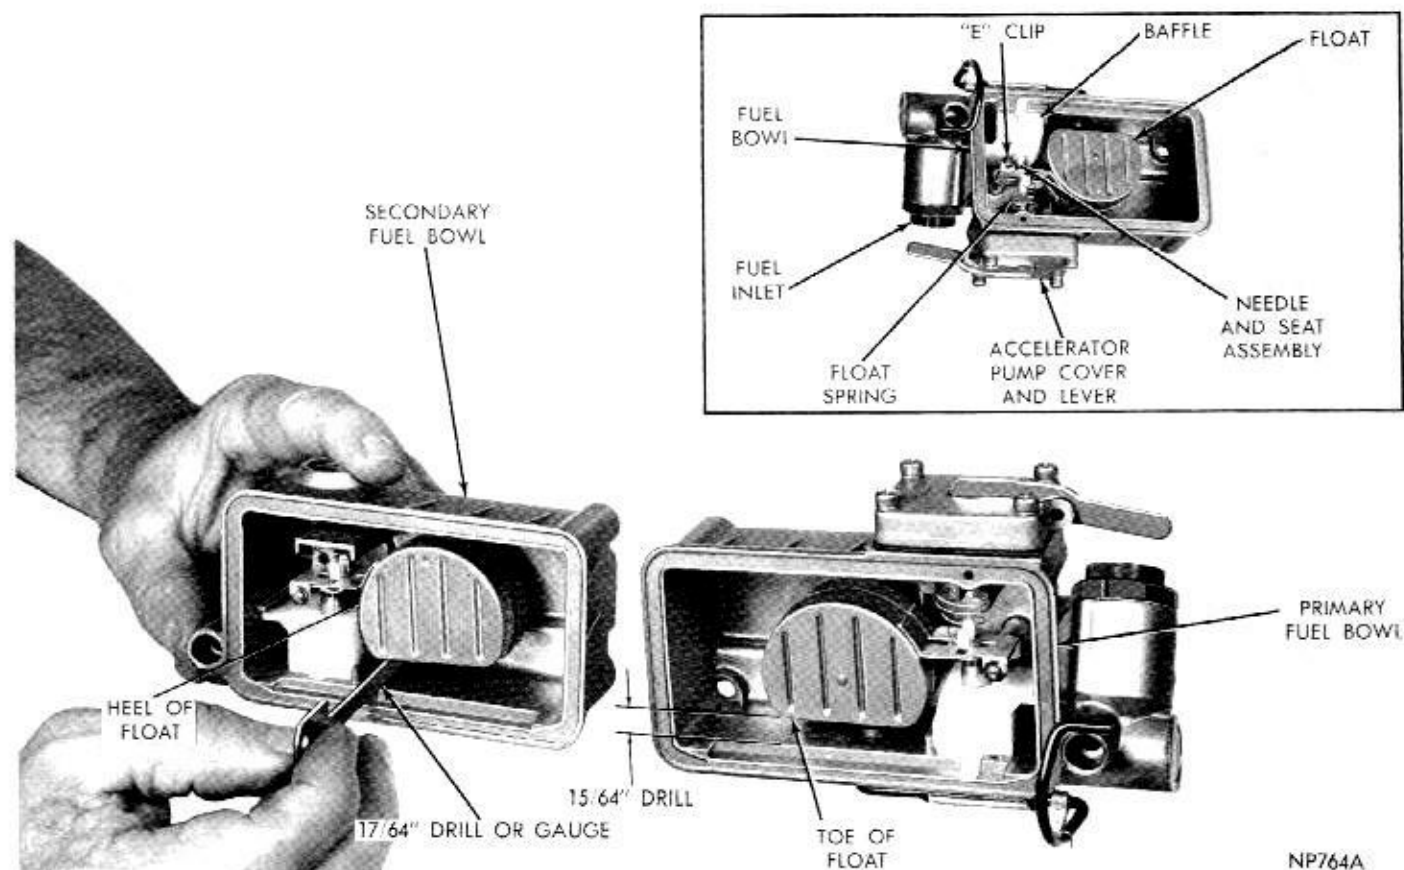

Fig. 12—Checking Float Setting (Primary and Secondary)
(1) Invert the primary fuel bowl and using a 15/64 inch drill shank or gauge, measure the clearance between toe of float and surface of fuel bowl. (Fig. 12). If an adjustment is necessary, bend float tang until correct clearance has been obtained.
(2) Invert the secondary fuel bowl and using a 17/64 inch drill shank or gauge, measure the clearance between heel of float and surface of fuel bowl (Fig. 12). If an adjustment is necessary, bend float tang until correct clearance has been obtained.